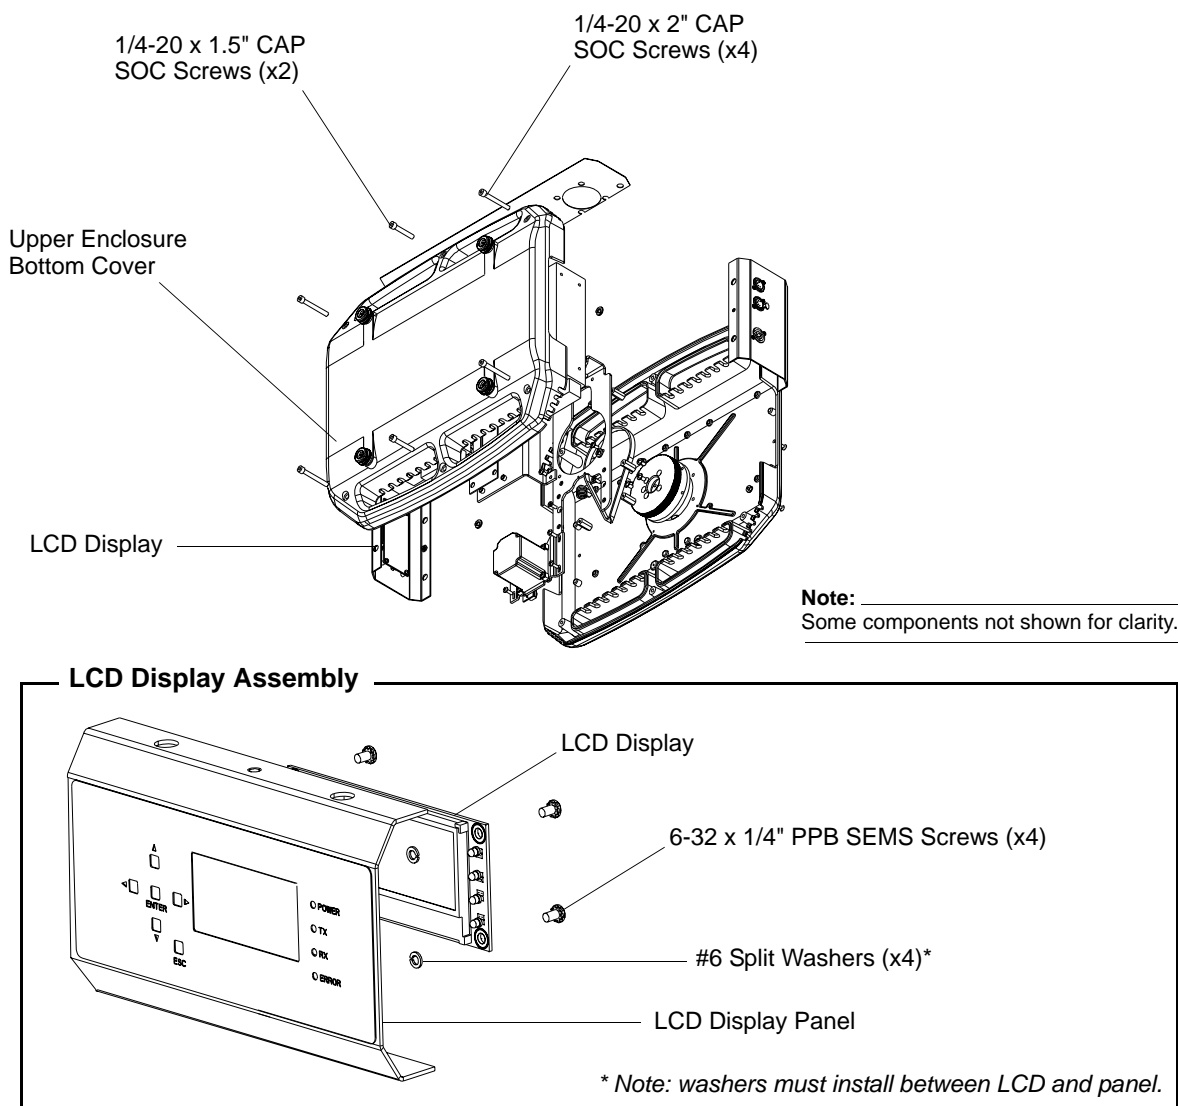

Figure 2-50: VLX Wash Upper Enclosure / LCD Display Assembly
- Step 3. Using 3/16" hex wrench and as indicated in Figure 2-50, remove four 1/4-20 x 2" CAP SOC screws and two 1/4-20 x 1.5" CAP SOC screws and remove base cover.
- Step 7. Remove four 6-32 x 1/4" PPB SEMS screws securing LCD Display to assembly. Note location of four #6 split washers. They must be reinstalled in same position as noted in Figure 2-50.